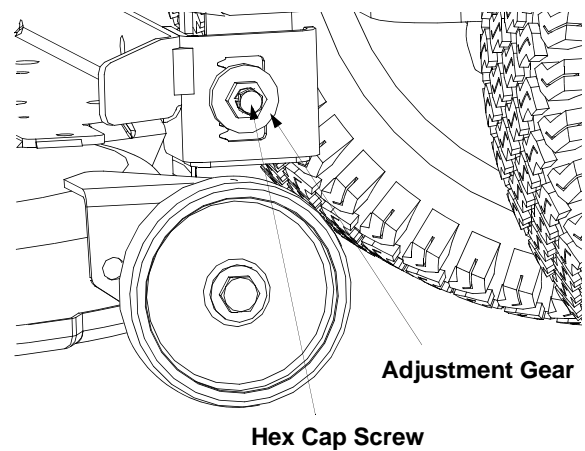

Figure 9
3. Loosen, but do **not** remove, the hex cap screw on the left deck hanger bracket. See Figure 9.
4. To balance the deck turn the adjustment gear, located immediately behind the hex cap screw, clockwise/up or counterclockwise/down. See Figure 9. You will need an adjustable wrench for this step.